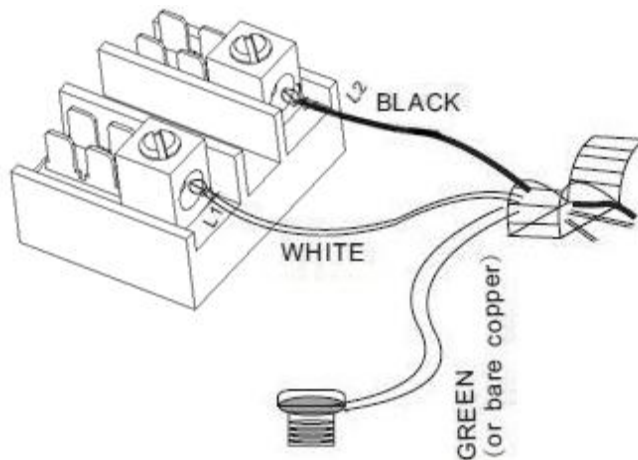

Figure 13
3. Connect the wire to the power block located in the base of the heater - See Figure 13.